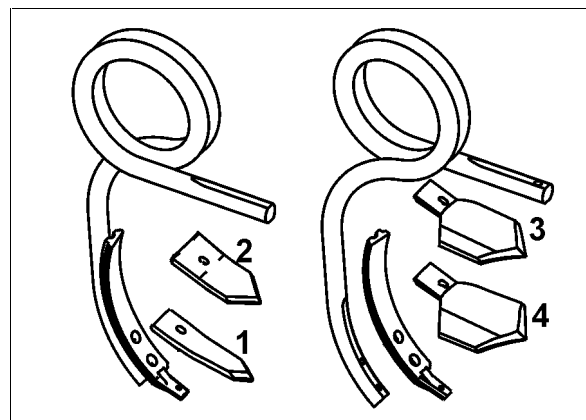

Fig. 15
- o Narrow share (Fig. 15/1)
- o Stubble share (Fig. 15/2)
- o Wide wing share (Fig. 15/3,4)